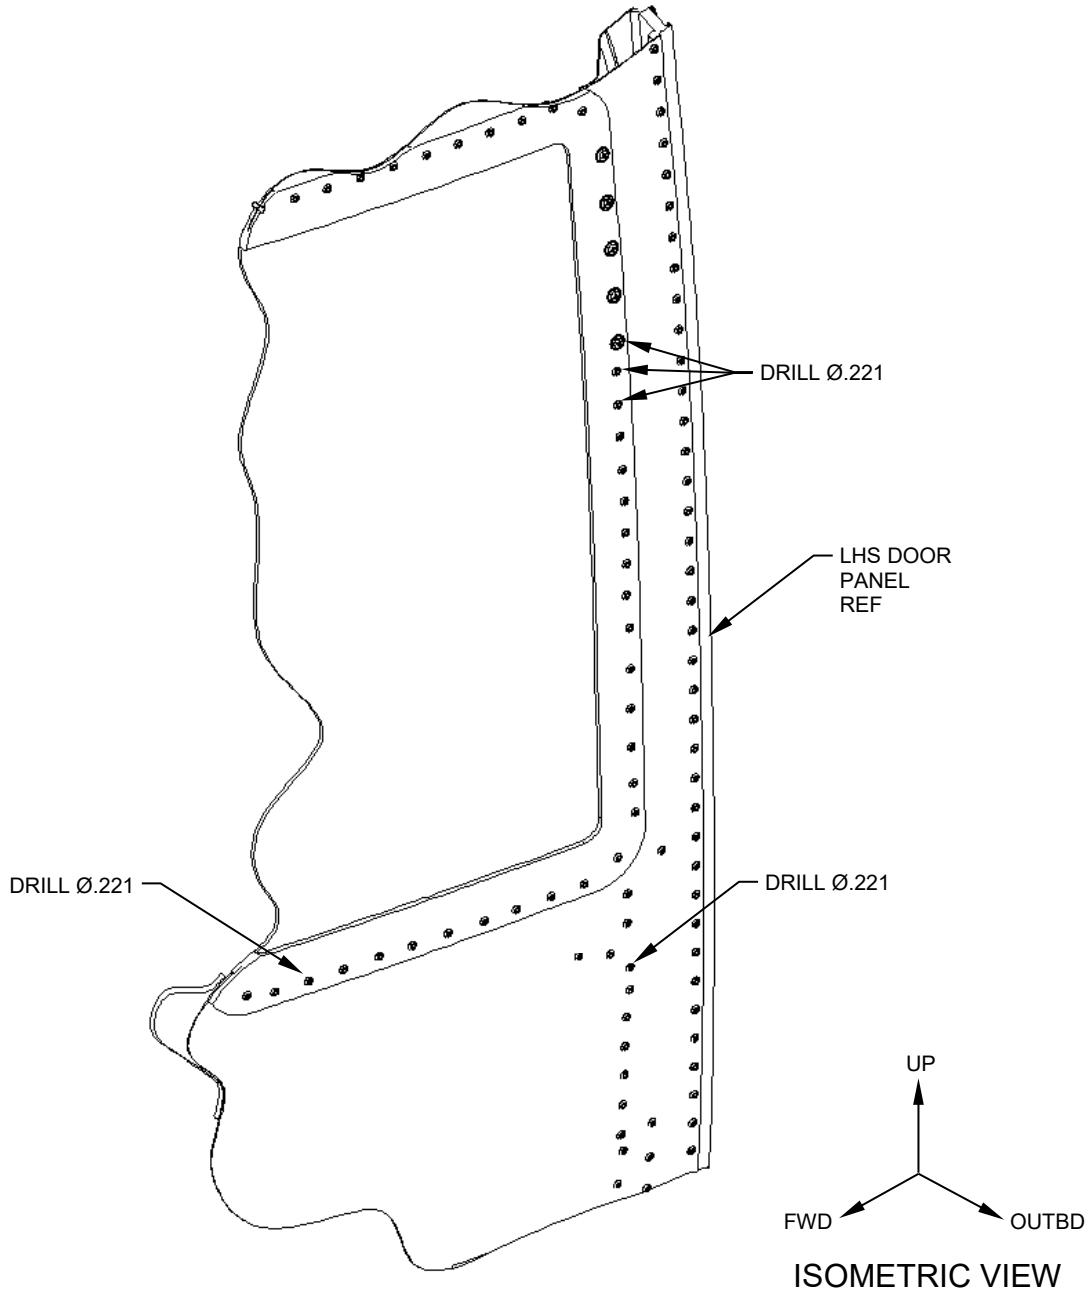

Figure 2
2. Drill out the indicated rivets and upsize the resultant holes to $\varnothing.221$ (#2). Reference Figure 2.